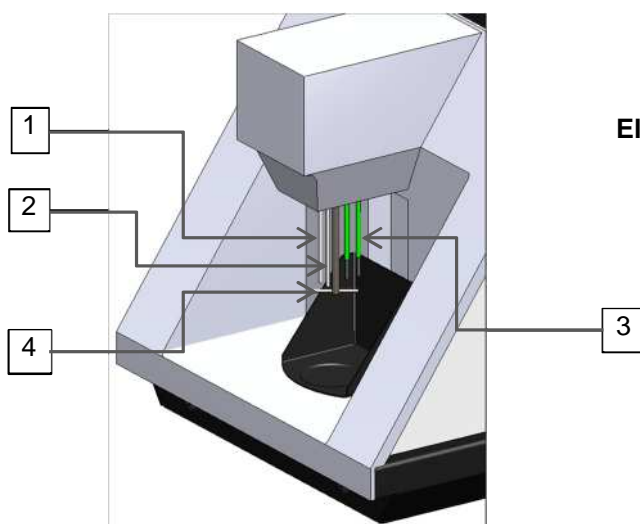

Figure 5.3
11. If necessary, adjust the vertical position of the anode, Item 2, Figure 5.3, so that it is the same length as the other electrodes.